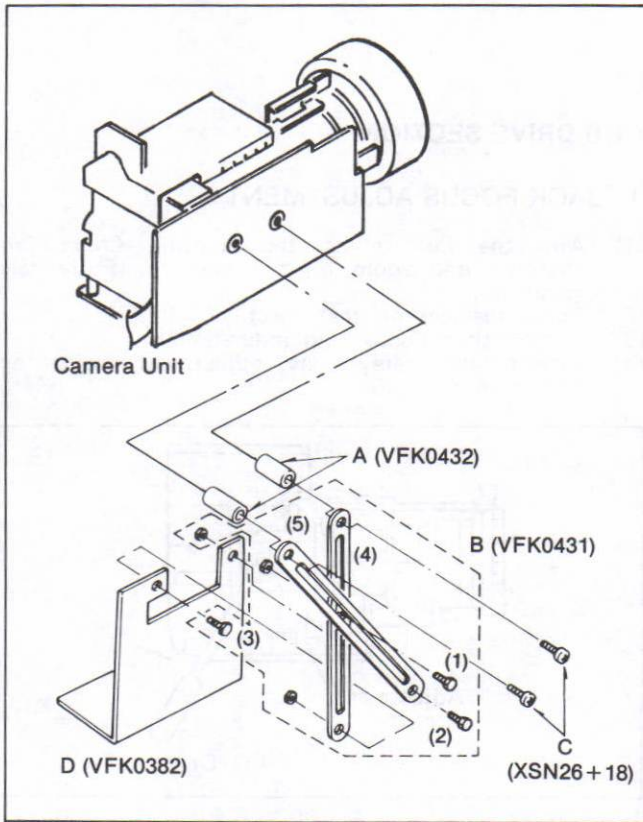

Fig. C4-2
- (A) --- VFK0432 Holder Spacer (2pcs.)
- (B) --- VFK0431 Camera Holder Arm
- (C) --- XSN26+18 Screw (2pcs.)
- (D) --- VFK0382 Camera Holder
- (1) Fix the Holder Arm (4) and (5) temporarily by screw (1) as shown in Fig. C4-2.
- (3) Tighten the screws (C) with the Holder Spacers (A) as shown in Fig. C4-2.